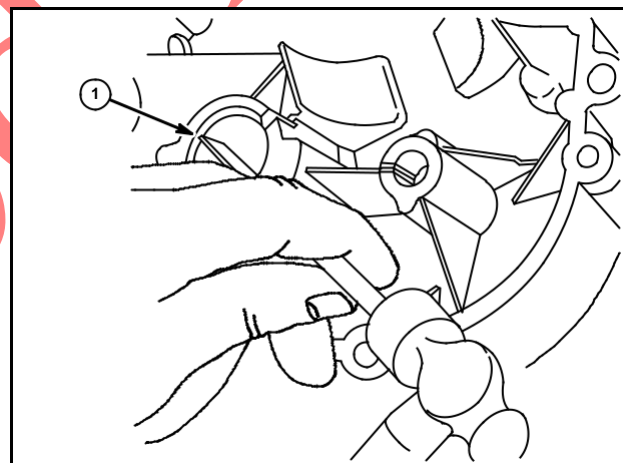

Fig. 12
3. With a chisel or screwdriver and hammer, make a notch in reamed out bearing (1) opposite split in bushing, Fig. 12.